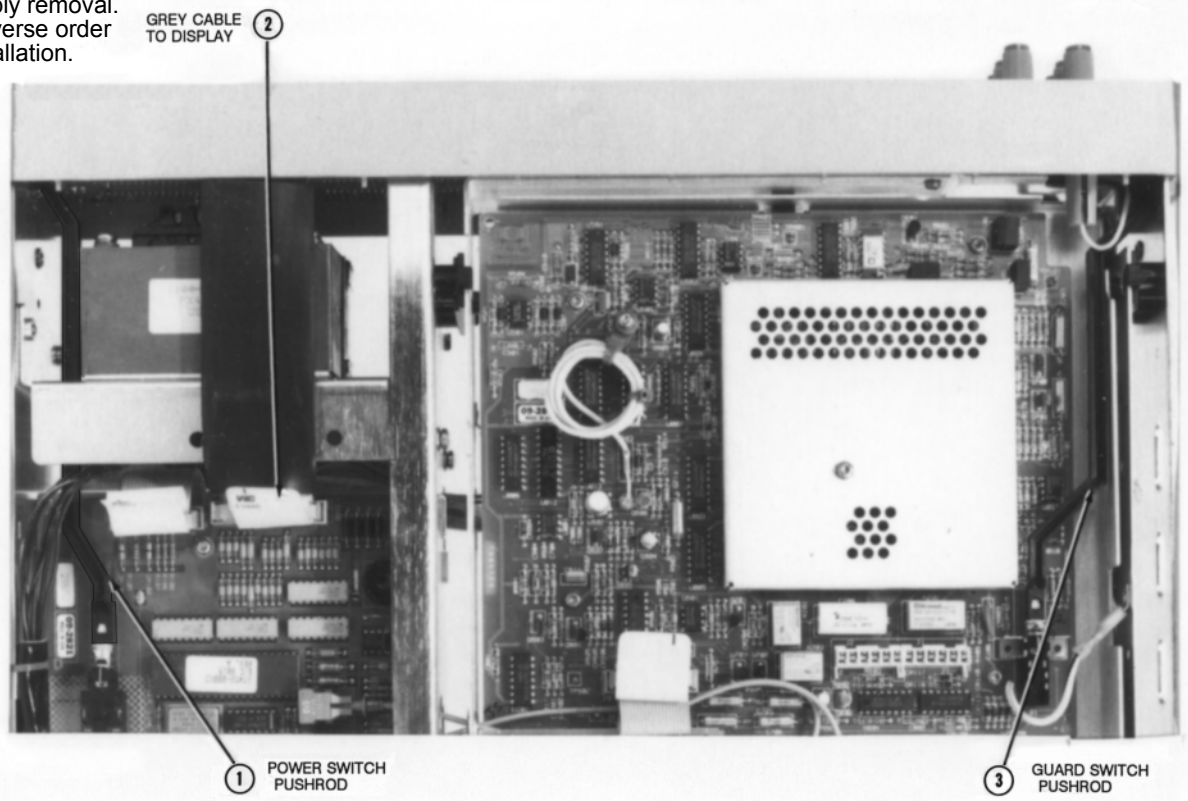

Figure 21. Guard and Power Pushrods, and Display Cable Locations
3. Refer to Figure 21. Do the following:
15. Refer to Figure 21. Do the following: